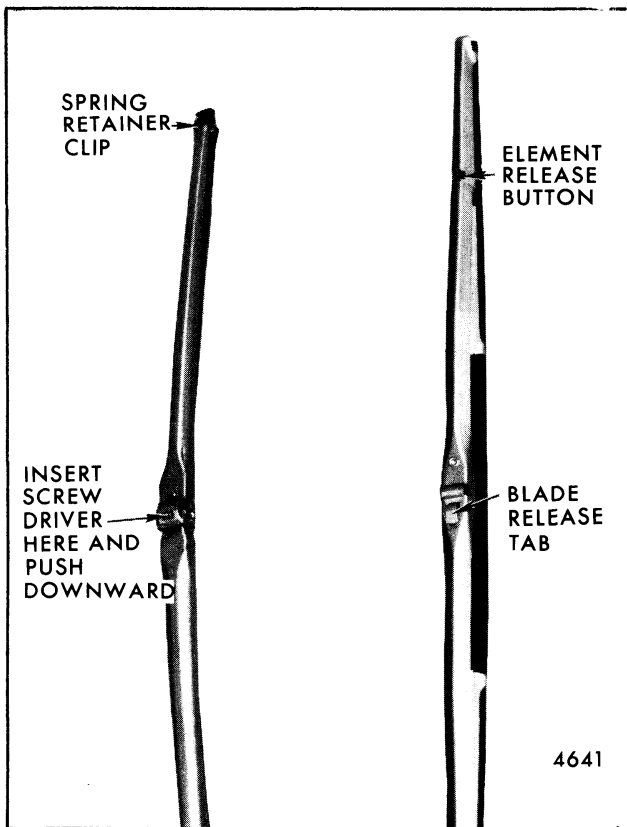

Fig. 2-38-Wiper Blade Assemblies
Two methods are used to retain wiper blades to wiper arms (Fig. 2-38).
2. The other method uses a coil spring retainer. A screw driver must be inserted on top of the spring and the spring pushed downward (Fig. 2-38). The blade assembly can then be slid off the wiper arm pin.
Two methods are also used to retain the blade element in the blade assembly (Fig. 2-38).